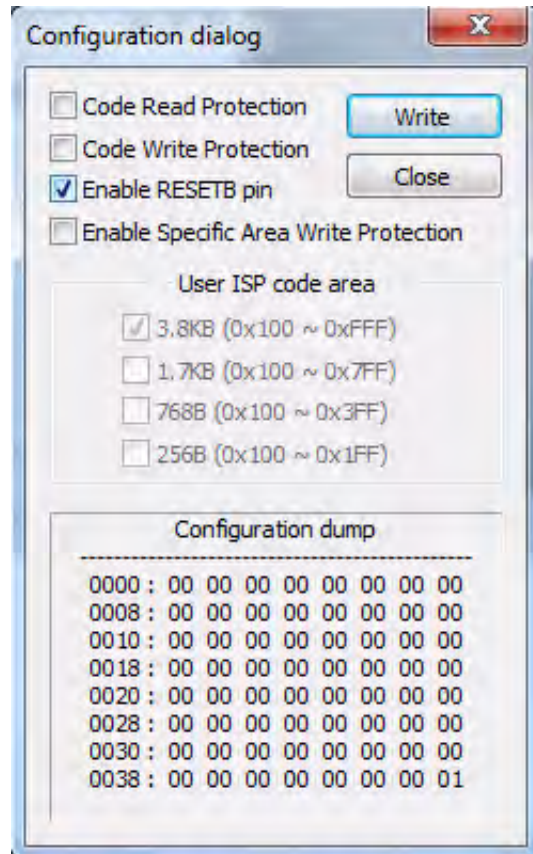

Figure 72. The Configuration Dialog
5. Click the **Download** button. The Configuration dialog will appear, as shown in Figure 72.